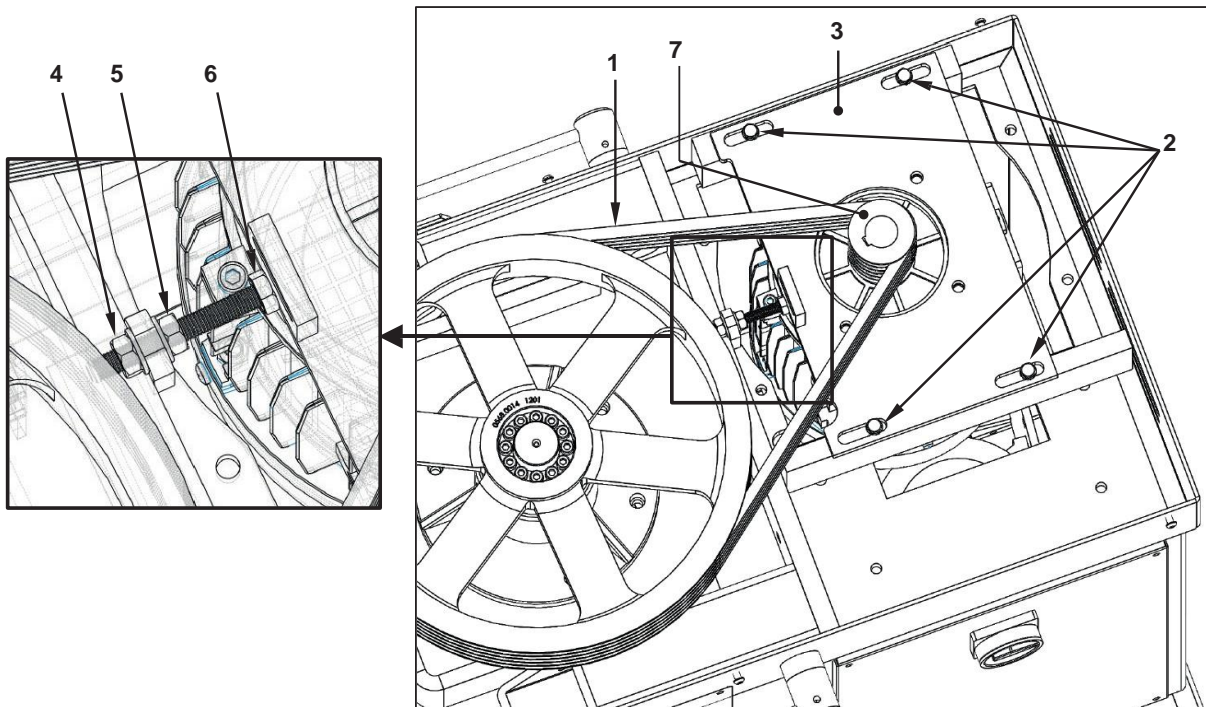

Figure 14 - Tensioning adjustment of the drive belts for spiral arm motion (MSP JET/T)
With reference to Figure 14, **to adjust tensioning of the belts** ref. 1:
- loosen the four screws ref. 2, to allow sliding of the plate ref. 3
- with a hexagonal opening wrench, loosen the locking nuts ref. 4 and 5, as necessary
- with a hexagonal opening wrench, turn the nut ref. 6; by doing so, the plate ref. 3 moves on which the motor is fastened with the pulley ref. 7, thereby modifying tensioning of the belts ref. 1
- having concluded adjustment, tighten the screws ref. 2 and the locking nuts ref. 4 and ref. 5